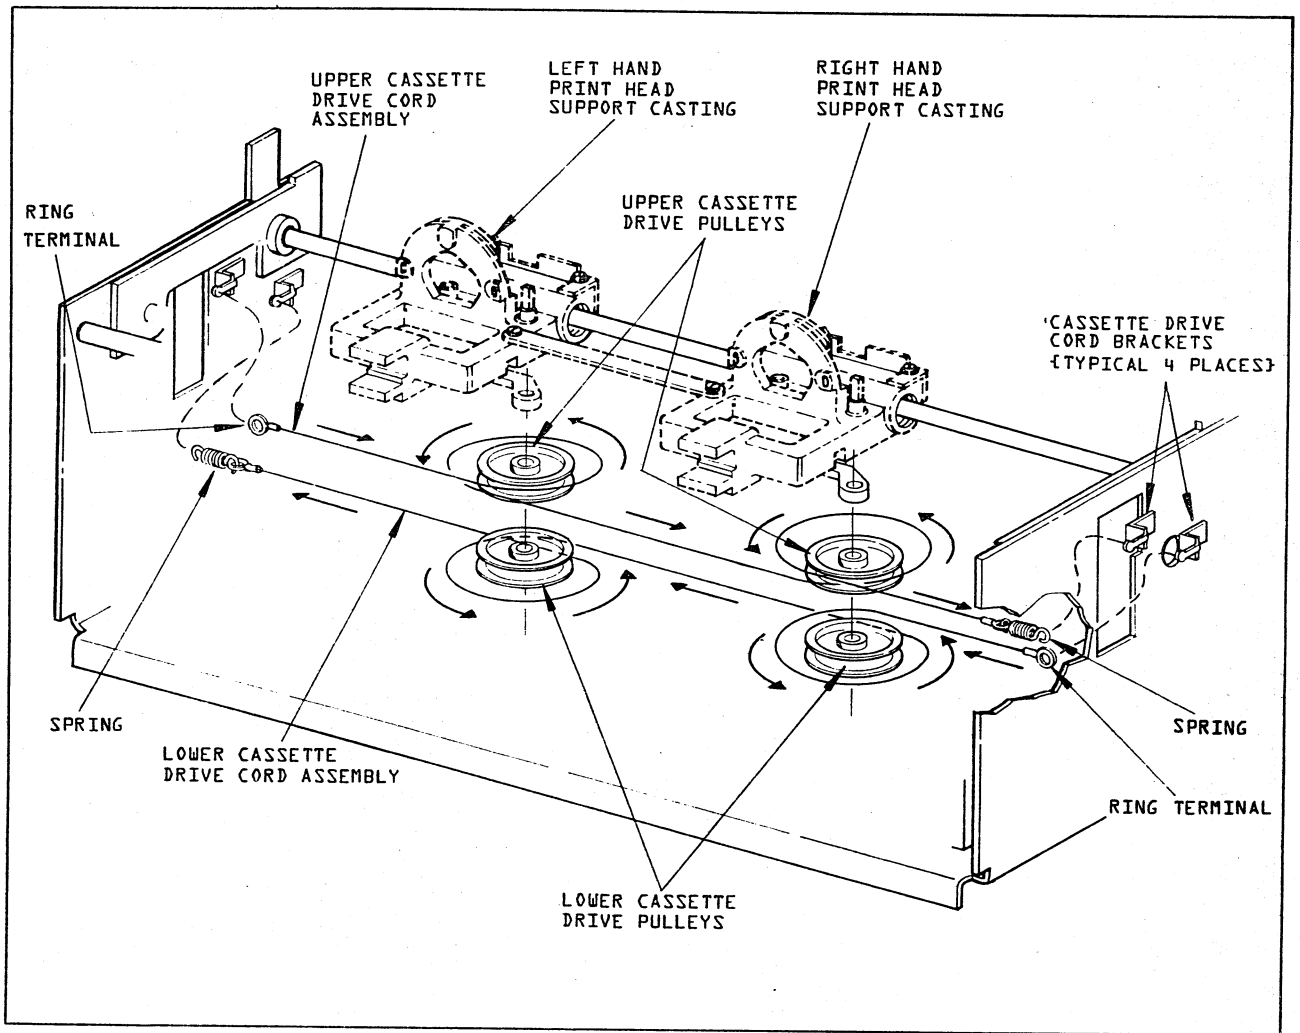

FIGURE 8-4. CASSETTE DRIVE CORD REPLACEMENT
Removal (Figure 8-4)
Replacement (Figure 8-4)
1. With the aid of Figure 8-4, install the new cassette drive cord assemblies. Care should be taken to assure that the ring terminals and springs are attached to the proper side of the printer as shown in Figure 8-4. Figure 8-4 shows the typical installation of drive cords on a two headed (125 L. P. M.) printer. Installation of drive cords on one head (70 L. P. M.) printers is identical except for the additional full turn of the cords around the right hand cassette drive pulleys.